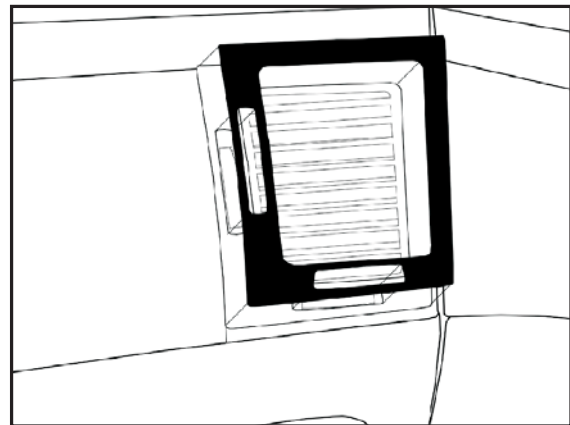

Fig. N1
- ⚠ A. Align part uniformly to edge of factory components. Edge of appliqué should be flush to edge of factory component,  $\pm 1.0\text{mm}$ . (Fig. N1).